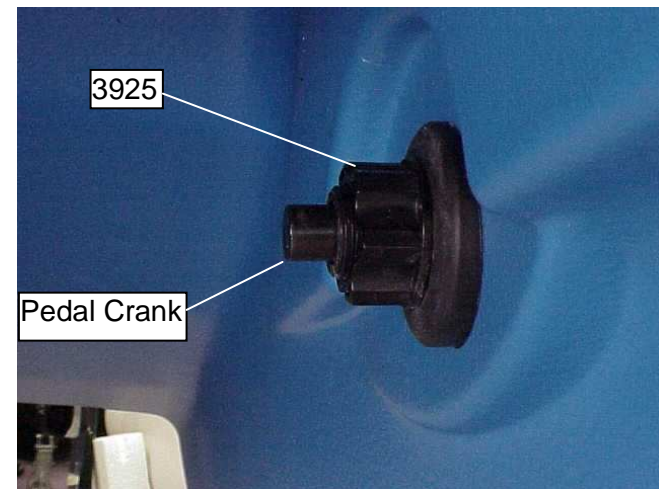

Figure 6.
8. Thread the 3925 Nut onto the 3922 Bushing. Tighten the nut against the backing plate to a strong “hand-tight” torque. Ensure the backing plate is solidly in contact with the boat hull surface. Using the channel locks, turn the nut 3-4 additional “clicks” of the locking feature. Do not over tighten. **See Figure 6.**